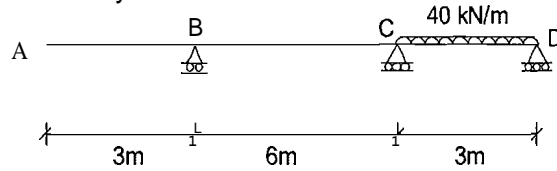

Fig. 5
5. Support B of the continuous beam shown in fig. 5 has a downward settlement of **30 mm**. Calculate the support reaction at D by the flexibility matrix method. **20**